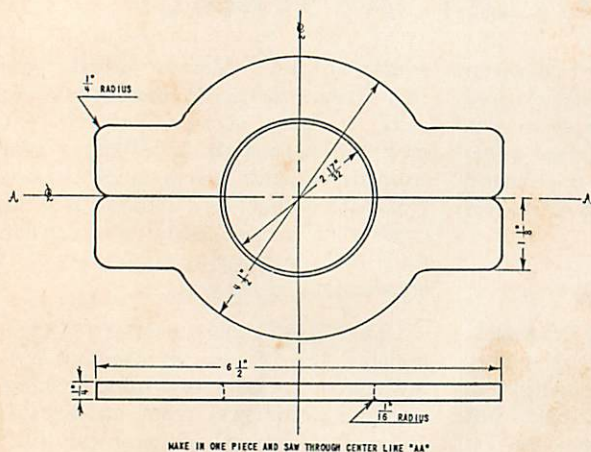

Fig. O131 — Seal installation tool can be made from piece of 1/4-inch thick steel plate. Refer to dimensions shown on drawing.
mounting flange), then install bearing cone with bevel towards housing. Install bearing cone on drive pinion with bevel away from gear. Install bearing cups in carrier, then with an oil seal installation tool similar to that shown in Fig. O131 positioned between pulley flange of shaft and oil seal (10—Fig. O130), press oil seal and pulley shaft into carrier. Install the pinion and bearing on pulley shaft and screw the nut (12) onto shaft so that a slight end play of shaft in bearing remains. Use a spring scale and note effort required to rotate carrier on shaft. Tighten nut until the spring